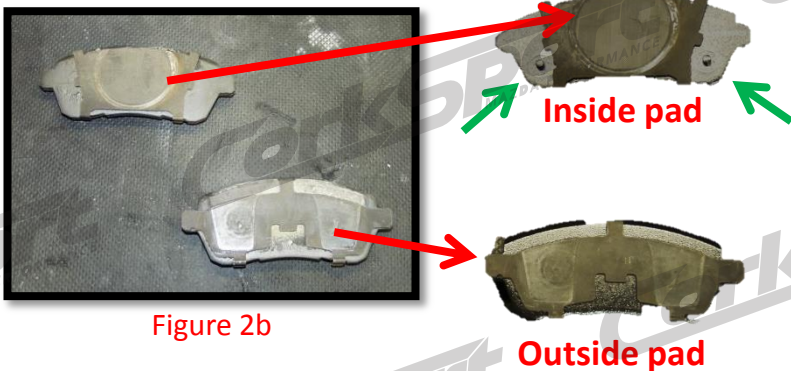

Figure 2b
- b) Next, transfer the pad backing shims to the new brake pads (shown in Figure 2b).
- b) Next, transfer the pad backing shims to the new brake pads (shown in Figure 2b). Note that the inside brake pad has the two pegs (indicated with green arrows).